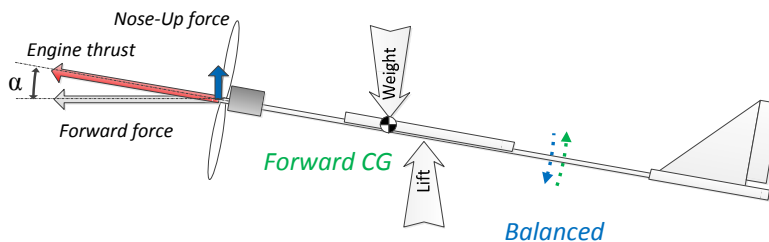

Fig 4. Change the CG.
3. Change the center of gravity to create a counter torque to balance the Nose-Up force (Fig 4). Either move the wing towards the tail or add weight to the nose. The goal is to put the CG before the lift center. We did try this solution and it worked. Due to the constraint of the push rods, we could not move the wing position. So Ray tied 3 pieces of rocks to the fuel tank to add weight to the nose. This moved the CG forward. Neil reported that the plane flew much better. This solution has couple advantages. First, it mounts both the engine and wing straight forward. Second, it has the same correction when the plane flying inverted (Fig 5). It's very important for acrobatic and 3D planes, since they fly inverted very often.